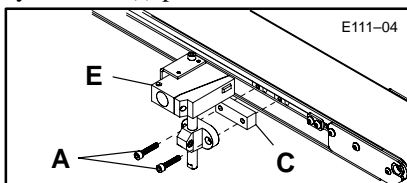

Figure 4: Photo-Eye Attachment Detail
- b. Refer to Figure 4 and attach Photo-Eye with Mounting Bracket and Spacer to the Single Drop-in T-bars using two M6 x 30 mm Socket Head Cap Screws (A). Tighten the Screws with the 5 mm Hex Key Wrench (I) provided.